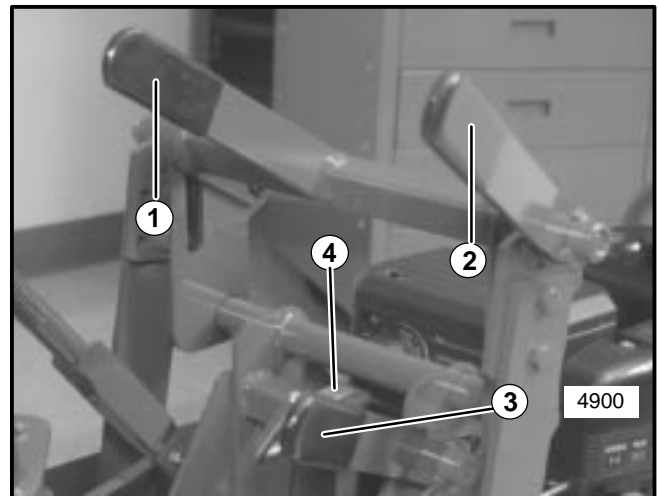

FIGURE 19
Blade Depth Control Lever	Raises or lowers cutting blade. See Figure 19, item 1.
Blade Angle Locking Lever	Adjusts cutting angle of blade. See Figure 19, item 3.
Blade Depth Control Locking Lever	Locking lever holds blade depth control lever in desired position. See Figure 19, item 2.
Loosen blade angle control locking lever and move H-frame forward or backward until blade is at desired angle of pitch. Tighten blade angle control locking lever. See Figure 19.
2. Loosen depth gauge handle (see Figure 19). Adjust depth gauge to contact bottom on depth control lever.